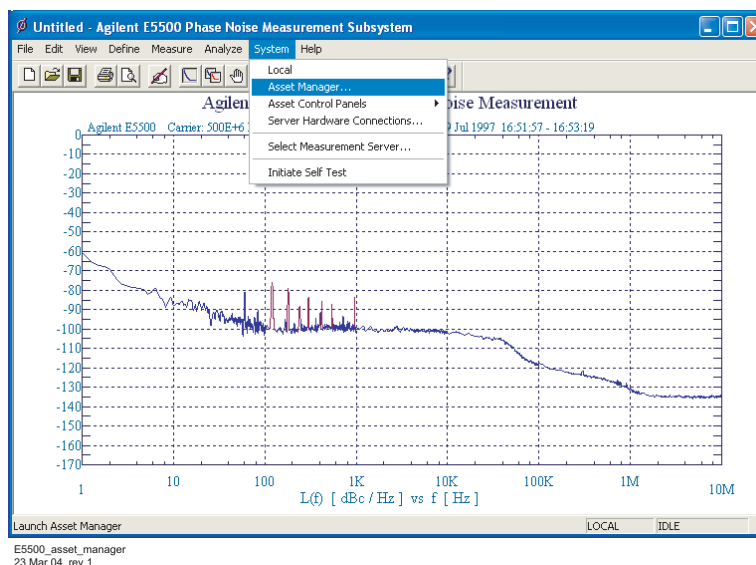

Figure 20 Navigate to Asset Manager
- 1 Using Figure 20 as a guide, navigate to **Asset Manager**. For this example we invoke the Asset Manager Wizard from the E5500 main screen. This is the most common way to add assets.